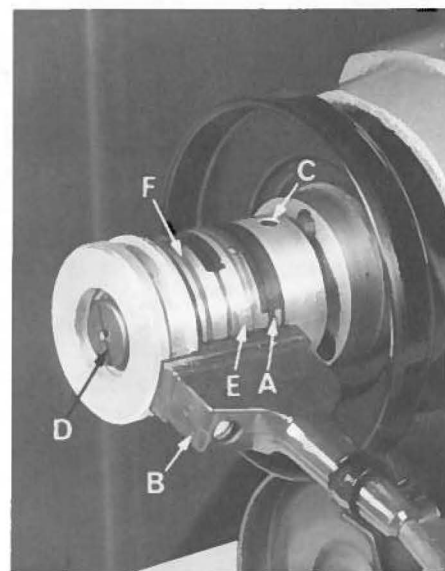

Fig. 34
- (b) At this time the brass contact of the left band (A, Fig. 34) should be flush with the front edge of the brush holder (B). To make this adjustment position needle bar and deflector plate as described in step (a), then loosen